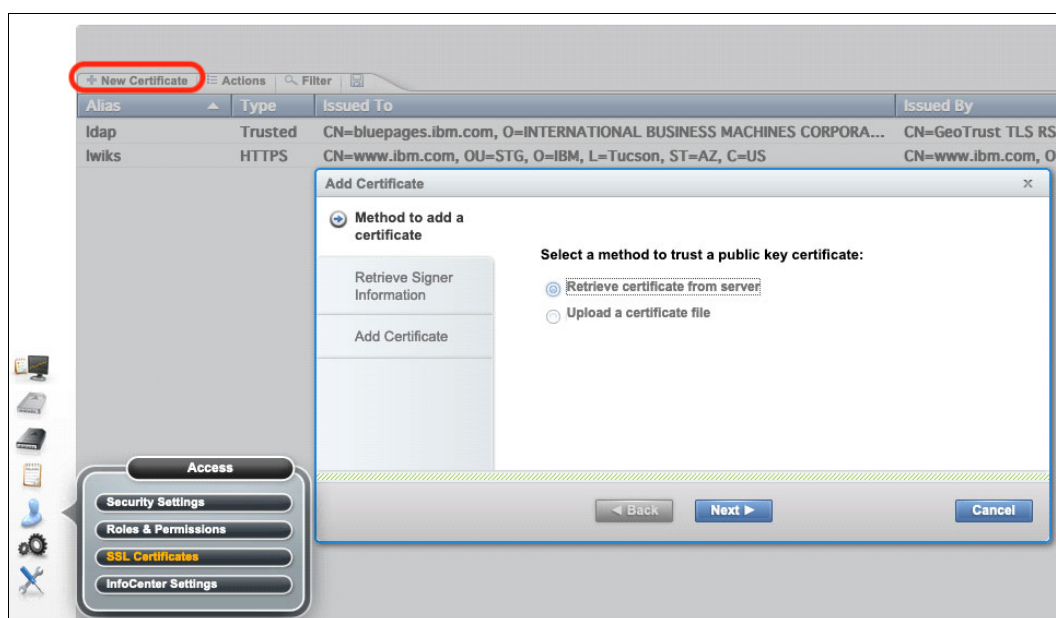

Figure J-8 Open the “Add Certificate” dialog
2. Click **New Certificate**, which opens the Add Certificate window. Then, in the Method to add a certificate tab, select **Retrieve a certificate from server** as the method to trust a public key certificate, as shown in Figure J-8.